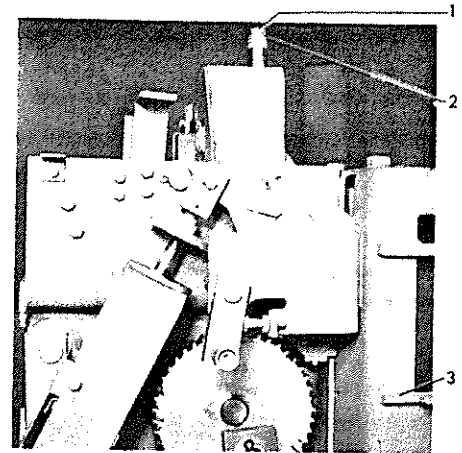

Figure 14. (8034464) Plunger Interlock
Refer to Figure 14. With the breaker in the closed position, the vertical distance "A" from the top of the plunger bolt (1) to the bottom of the breaker lifting rail (3) should be  $16-19/32"$  to  $16-23/32"$ . To change this adjustment, add or remove washers (2).